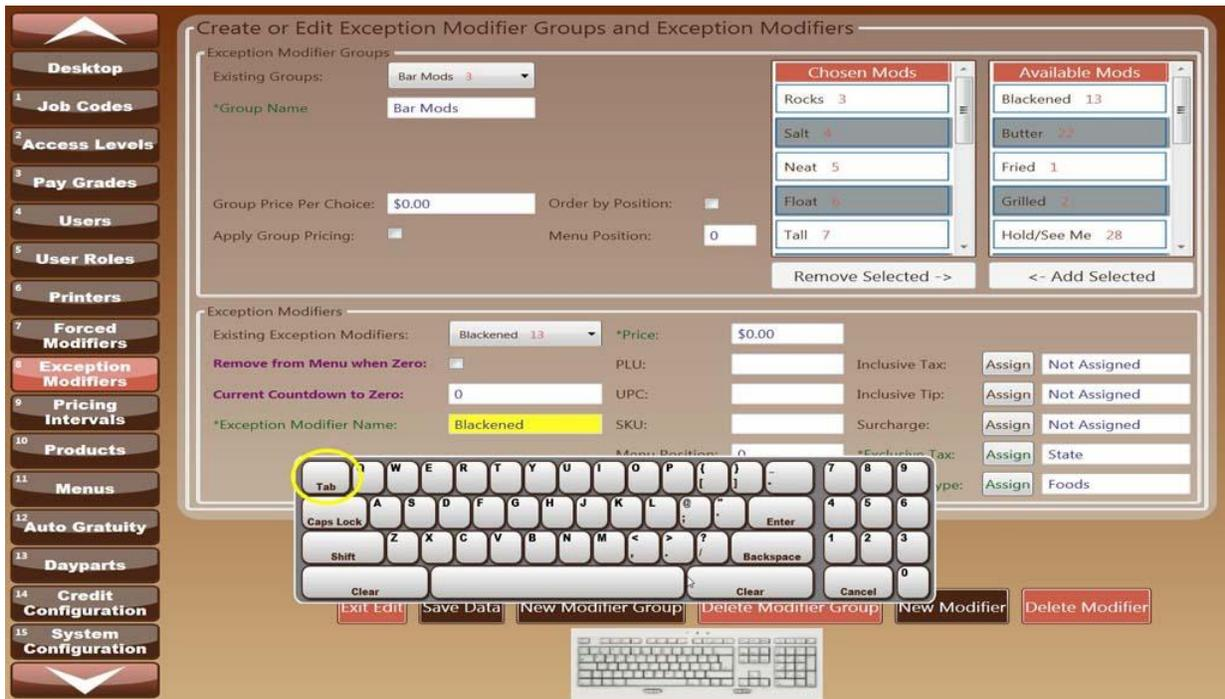

Figure 24
*See Figure 24*
*See Figure 24, Figure 26, Figure 27*